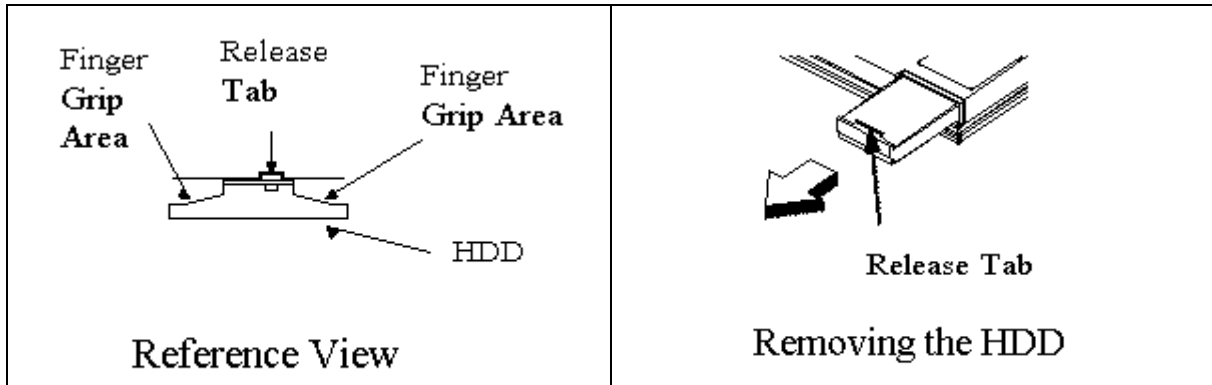

Figure 6-5 Removing/Replacing the Hard Disk Drive Module
5. While lifting upward on the HDD release tab (using your fingernails), use both finger grip areas (Figure 6-5) and pull the HDD module out of the notebook.